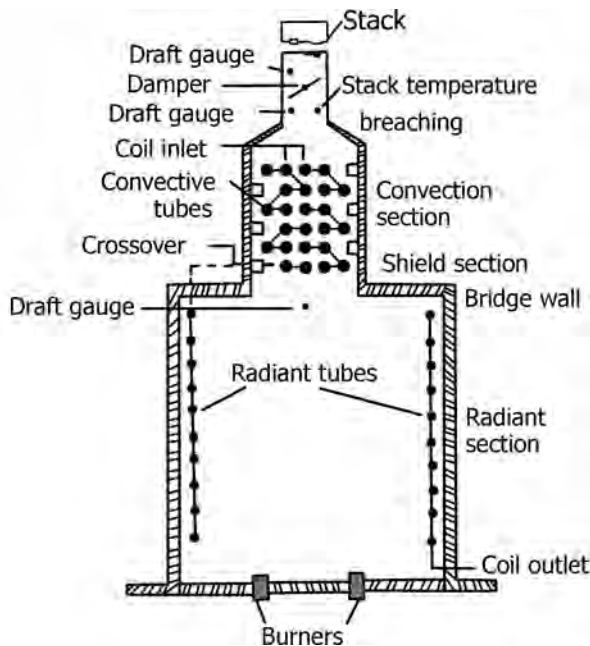

FIGURE 14.4 A cabin heater with horizontal tubes and a rectangular firebox.
- Figure 14.4 illustrates a medium-capacity cabin heater, with a rectangular firebox, tubes being arranged horizontally.